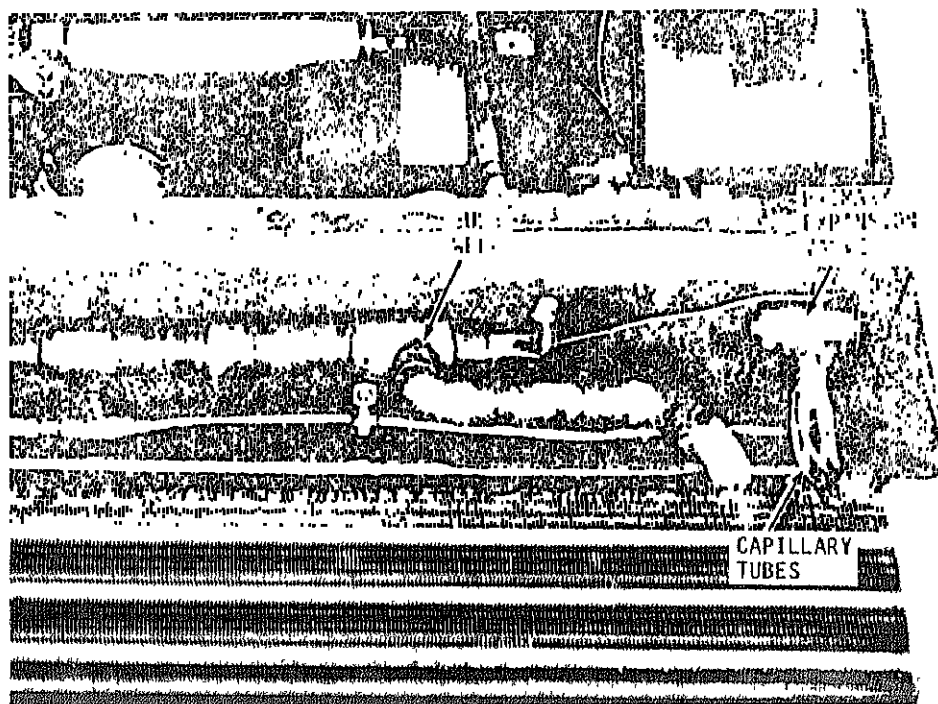

Figure 4-22. Expansion valve, primary
(2) Refer to figure 4-22 and para 5-29c(4) and check that the required length of the expansion valve's sensing bulb is fully in the suction line bulb well.
(3) Refer to figure 4-22 and examine the flow restrictor capillary tubes carefully. They should be very cold and evenly frosted. Unfrosted tubes are blocked and should be re-placed.
(4) If none of the capillary tubes is cold and frosted, the valve is
**c. Test.** Test the power assembly by releasing the valve's sensing bulb from the suction bulb well (figure 4-22). Hold the sensing bulb firmly in both hands for two or three minutes. The warning from holding the bulb should put enough pressure on the bellows to start the refrigerant flowing into the system. If cooling does not commence, the expansion valve is defective and should be replaced. Report all defects to direct support maintenance.